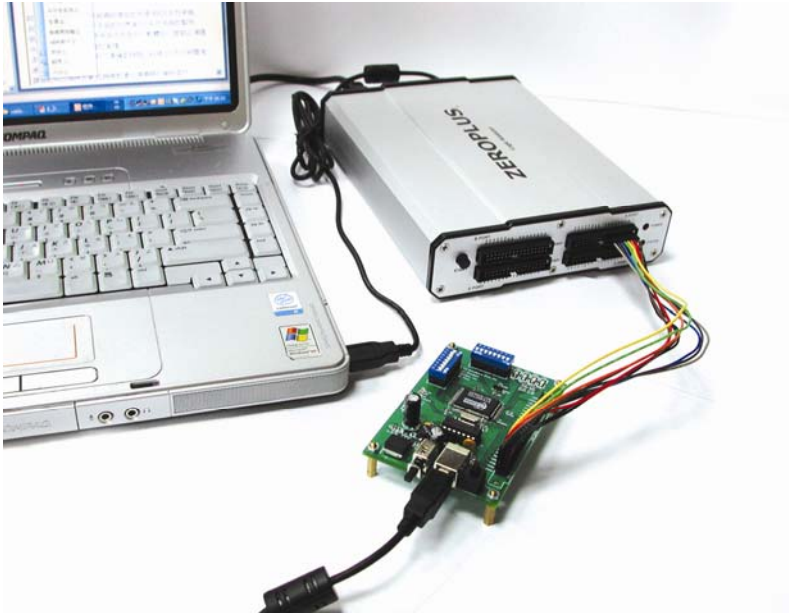

Fig. 2-3: An assembly of Laptop, Logic Analyzer, and a testing board.
4. The circuit board must be grounded to the Logic Analyzer with the connecting cables (Fig.2-3).